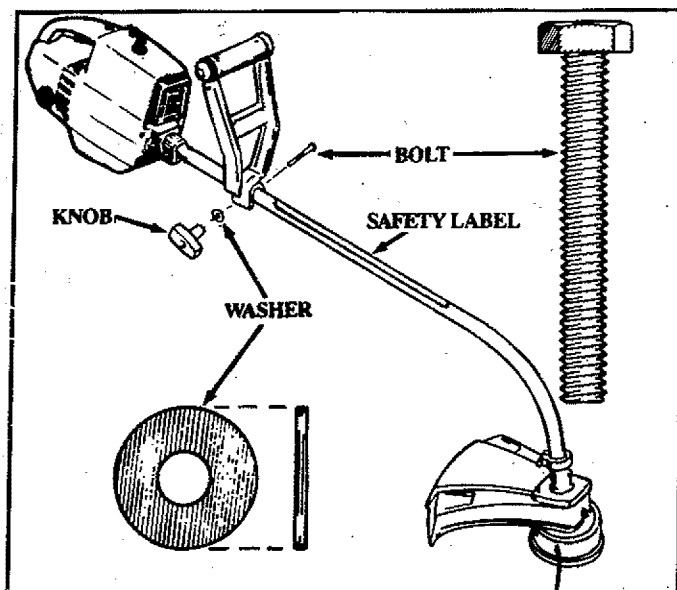

Figure 5
- g. Position the Drive Shaft Housing as shown in Figure 5.
### 4. ASSIST HANDLE — Figure 5
- b. Firmly push the Assist Handle onto the Drive Shaft Housing. Figure 5.